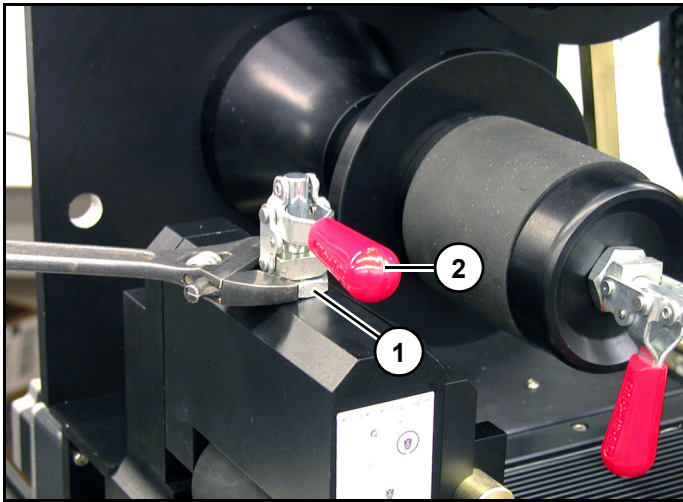

Figure 15
1. Place a crescent wrench on jam nut (1) below nip roller clamp handle (2) and loosen. (*Figure 15*)
2. Lift nip roller clamp handle (2) (*Figure 15*) and turn clockwise to increase pressure or counter-clockwise to decrease pressure.
3. Push nip roller clamp handle (2) (*Figure 15*) down towards front of machine.